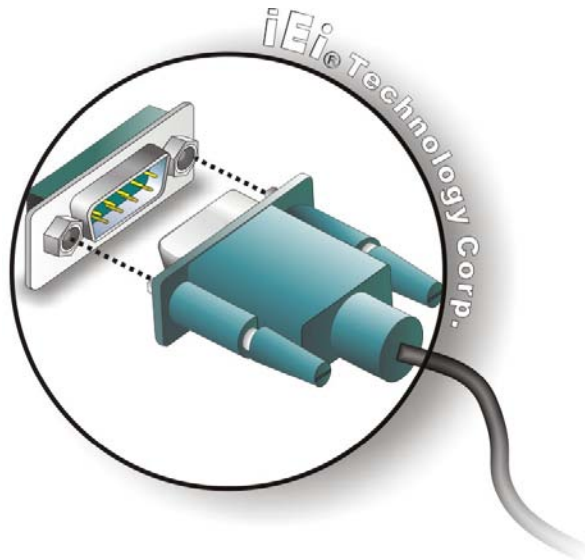

Figure 3-8: DB-9 Serial Port Connector
Step 2: Insert the serial connector. Insert the DB-9 connector of a serial device into the DB-9 connector on the rear panel. See Figure 3-8.